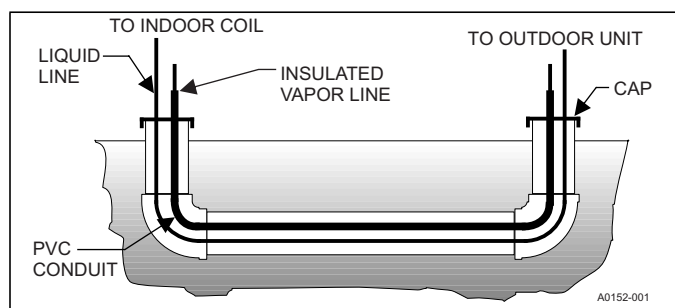

FIGURE 4: Underground Installation
6. Use PVC piping as a conduit for all underground installations as shown in Figure 4. Buried lines should be kept as short as possible to minimize the build up of liquid refrigerant in the vapor line during long periods of shutdown.